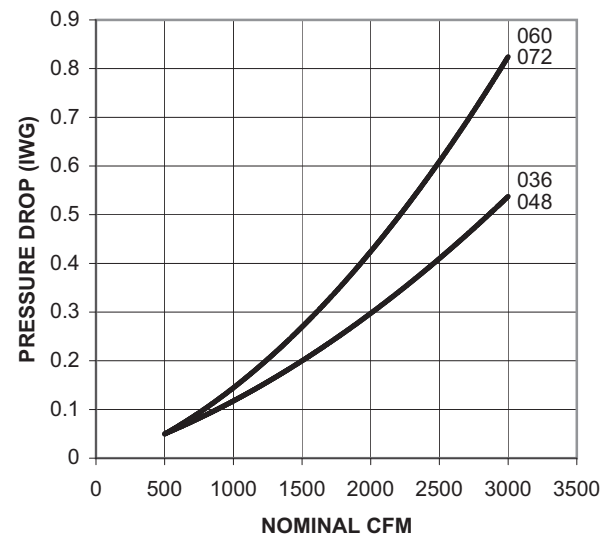

Figure 22: Pressure drop across coil
4. Knowing the pressure drop across a dry coil, the actual CFM through the unit can be determined from the curve in Pressure Drop vs. Supply Air CFM (Figure 22).